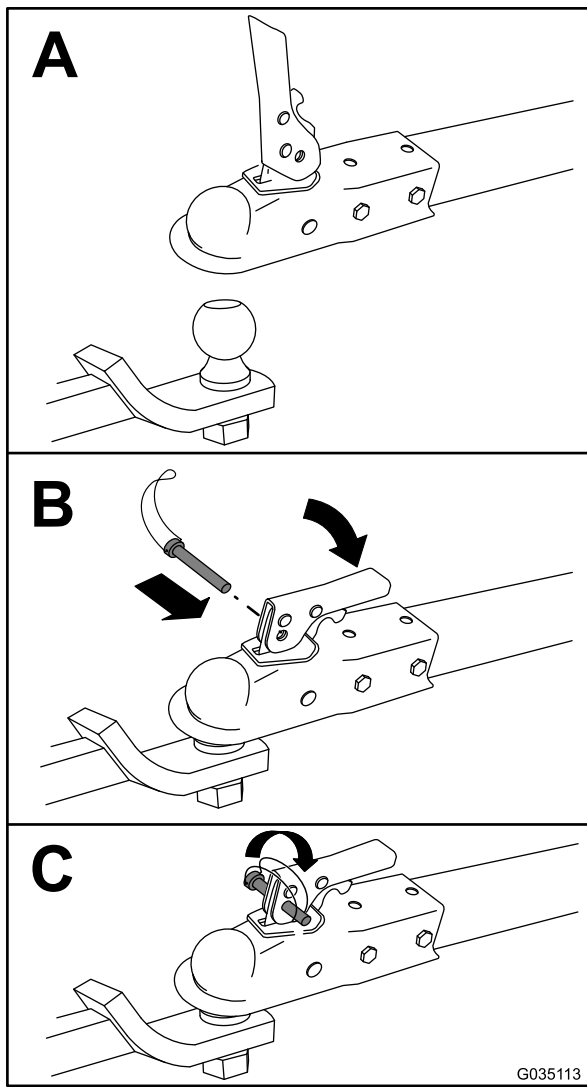

Figure 14
3. Hitch the machine as shown in Figure 14.